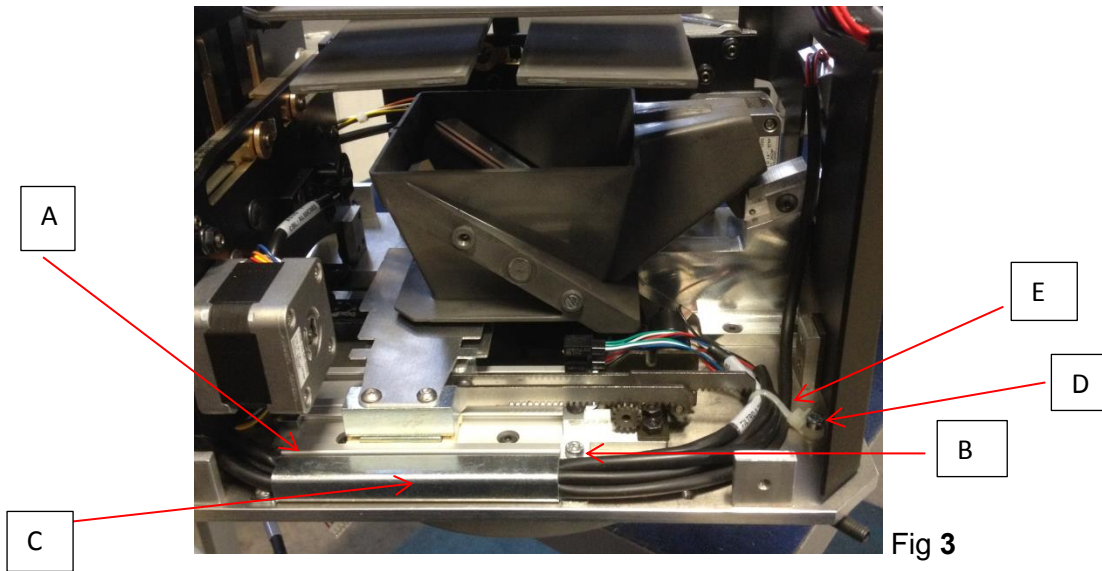

Fig 3
3. Disconnect all four connectors (**CN 4, 7, 5, and 6**) of the optical switches and the two motor unit connectors **CN6** and **CN3**. Loosen the screws **A** and **B**, remove the cable case **C** and cut the plastic cable tie **D** as shown in fig.3